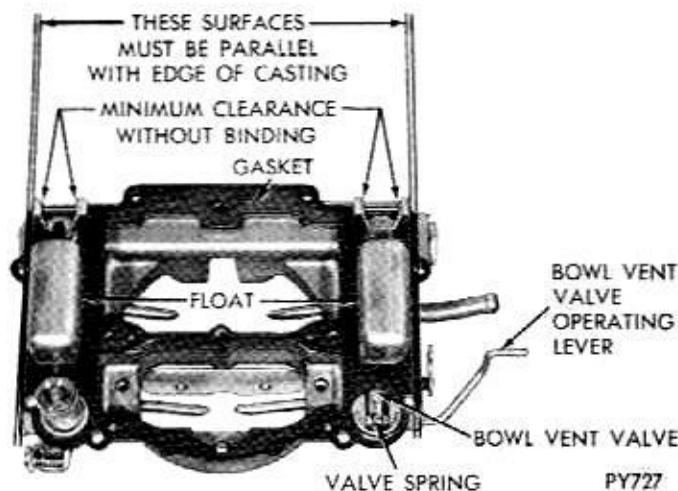

Fig. 10—Checking Float Alignment
(1) Sight down side of each float shell to determine if side of the float is parallel to outer cage of air horn casting, (Fig. 10).
(2) If sides of float are not in alignment with edge of casting, bend float lever by applying pressure to end of float shell with thumb. To avoid damage to the float, apply only enough pressure to bend the float lever.
(3) After aligning floats, remove as much clearance as possible between arms of float lever and lugs of air horn. To do this, bend float lever. The arms of float lever should be as parallel as possible to inner surfaces of lugs of casting.